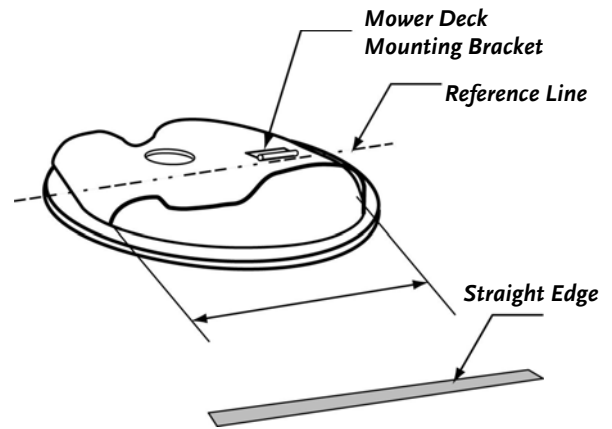
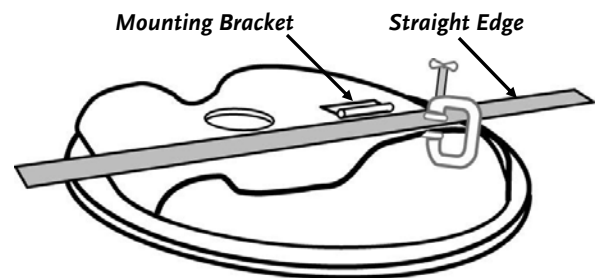

Figure 15
Figure 16
Figure 15 shows the typical location of a Reference Line on your Mower Deck. The location of this line is determined by finding a position that allows the Universal Lawn Deck Adapter to cover the entire Mower Deck opening (**Figure 15**) and provides clearances for the Hose and Hose Adapter when operating. This will vary depending upon the make and model of your machine. Frequently it is located in line with your Mower Deck Mounting Bracket.
- Place a Straight Edge against the front of the Mounting Bracket and clamp it in place (**Figure 16**). Lightly draw a Reference Line as shown in **Figure 15**.
- a) Place the Straight Edge against the edge of the Mounting Bracket and clamp it in place (**Figure 16** on page 12).